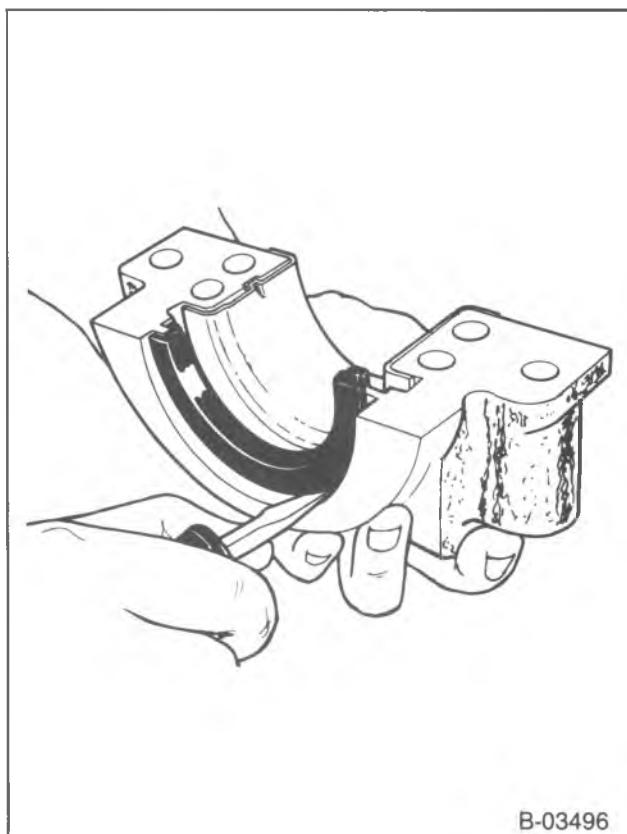
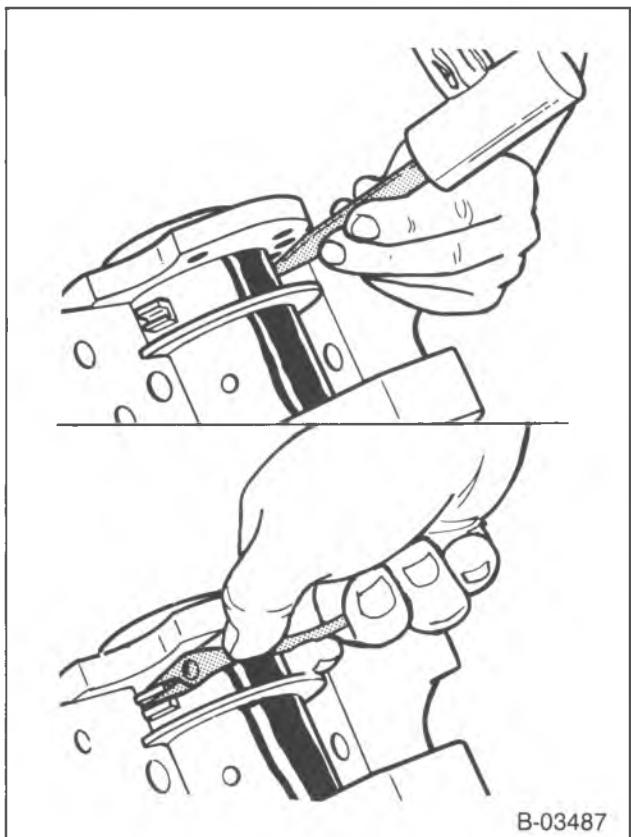

Figure 19—Removing the Lower Seal Half
Figure 20—Removing the Upper Seal Half
- Check the main bearing caps (152) for location markings. Mark the caps if necessary. The caps must be returned to their original locations during the engine assembly.
1. Bolts (138) and stud (139).
3. Crankshaft (154). Lift the crankshaft straight up, taking care to avoid damage to the crankshaft journals and thrust flange surfaces.
4. Upper and lower seal halves (132 and 135). Pry the seal halves out with a screwdriver (figure 19).
1. Rear main bearing cap (137).
2. Lower seal half (135) (figure 19).
3. Upper seal half (132).
- Tap on the upper seal half, using a small drift and hammer (figure 20).
- Remove the upper seal half, using pliers (figure 20).